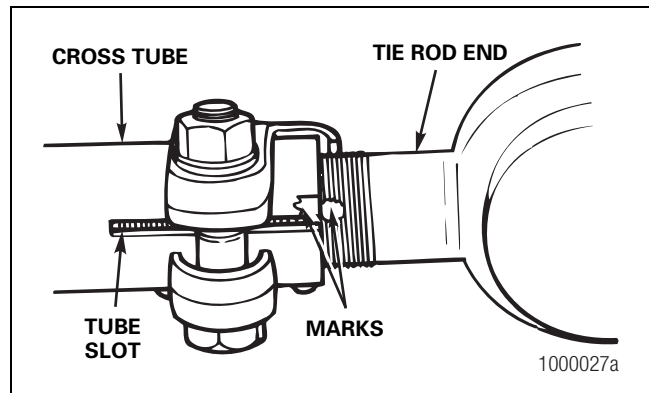

Figure 4.2
- A. Mark the position that each tie rod end is installed into the cross tube. Count and record the number of threads that appear outside of the cross tube. Figure 4.2.